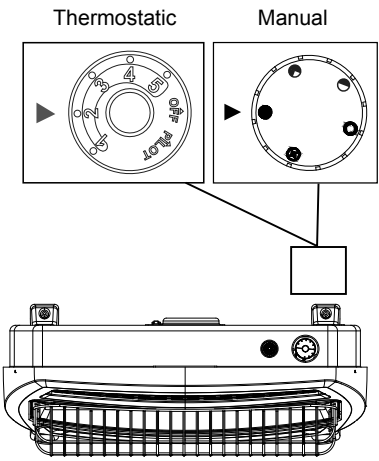

Fig. 25 - Control Knob Position
The control knob can be set to any comfort level between "HIGH" (5) and "LOW"(1) (See Fig. 25).The thermostat used on this heater senses the room temperature. At times the room may exceed the set temperature. When this begins to happen, the burner will begin to modulate the BtuH down until the unit meets the desired heat setting and shuts off. When the room temperature drops below the desired heat setting, the burner will cycle back on. The unit may start at a lower BtuH rate if the room is still warm.
Manual valves remain burning at the desired setting until manually turned to OFF "O"(See Fig. 25).